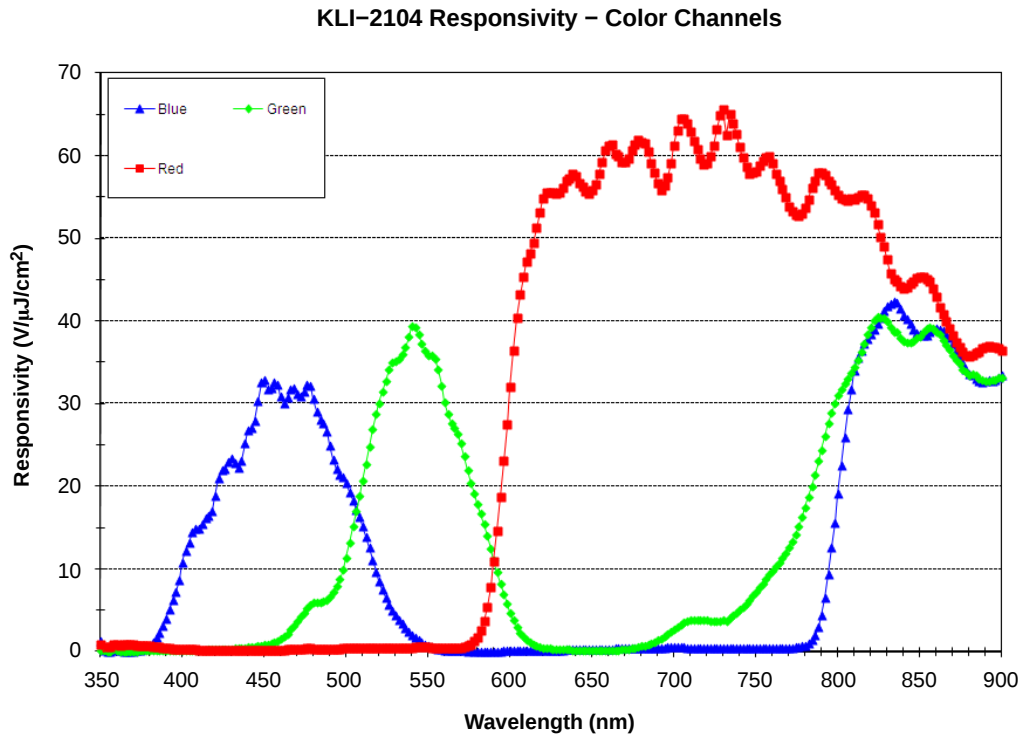

Figure 7. KLI-2104 Responsivity – Color Channels
2. With color filter. Values specified at filter peaks. 50% bandwidth = ± 30 nm. Color filter arrays become transparent after 710 nm. It is recommended that a suitable IR cut filter be used to maintain spectral balance and optimal MTF. See quantum efficiency plots in Figure 7.